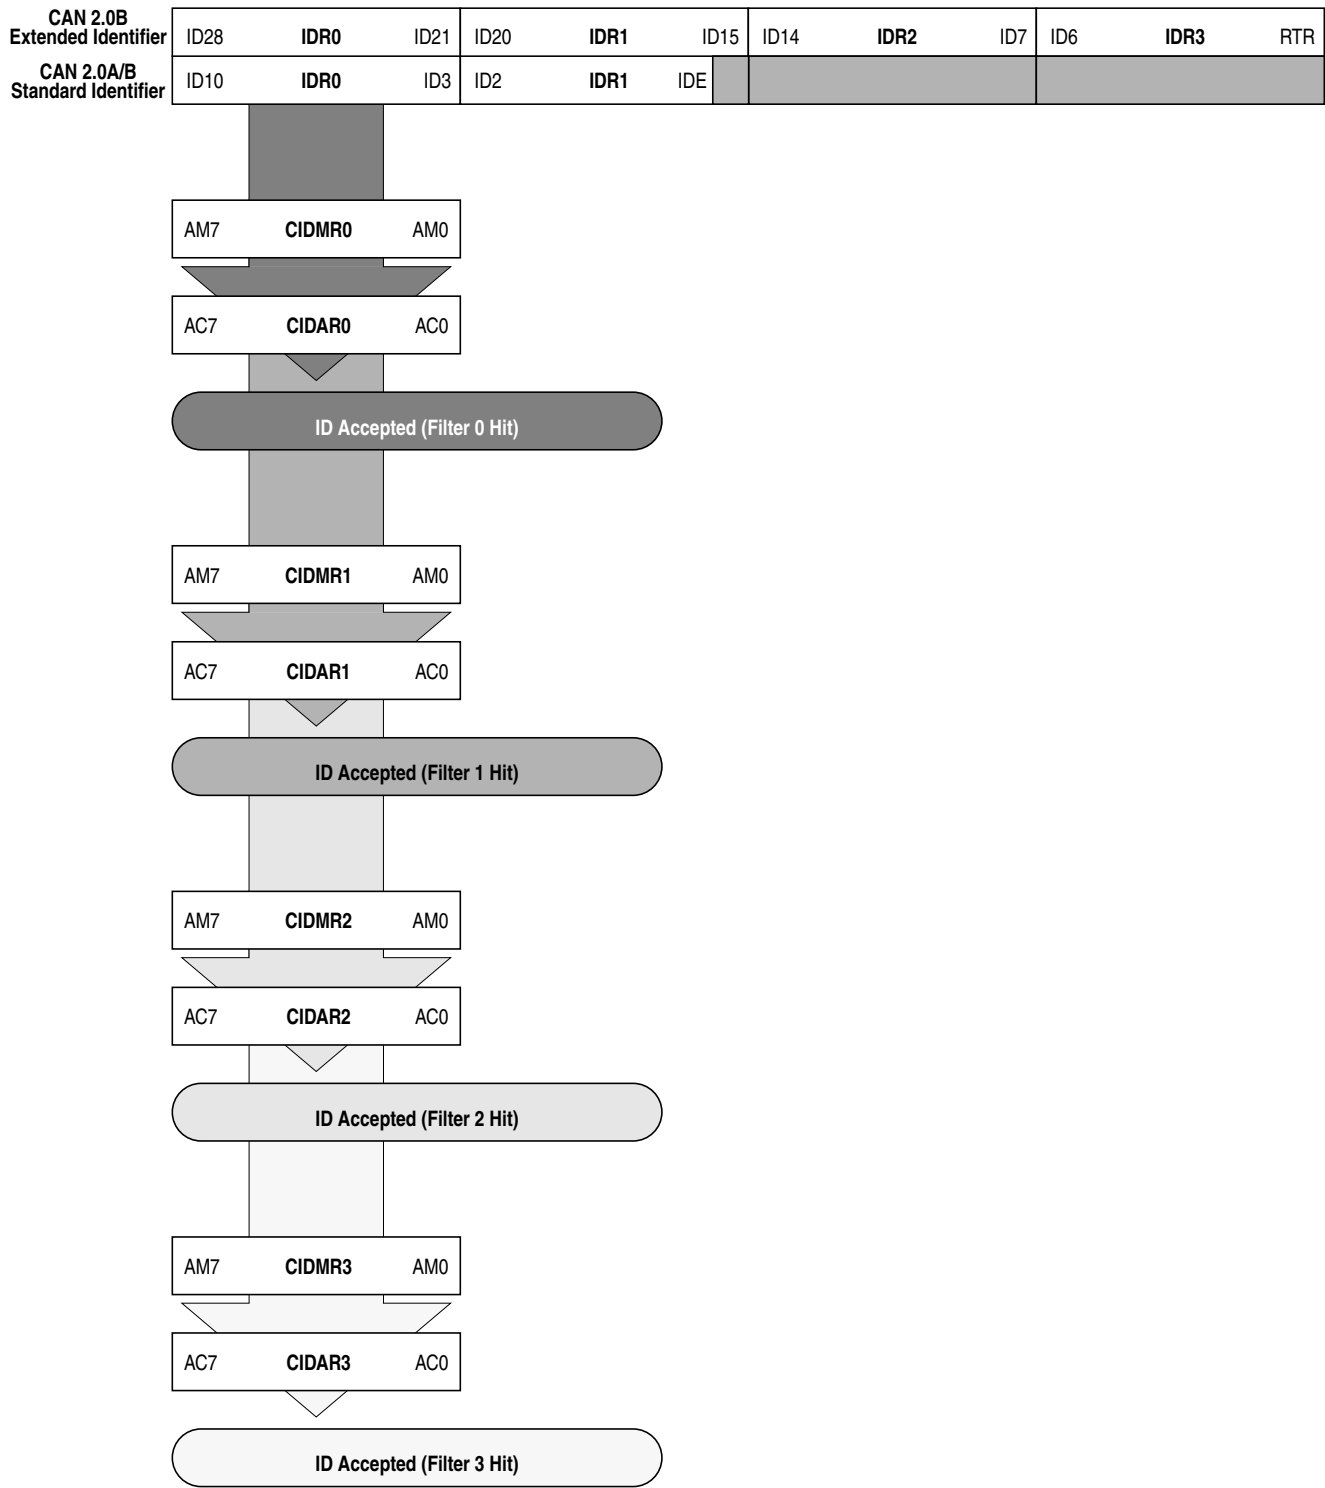

Figure 12-41. 8-bit Maskable Identifier Acceptance Filters
- Eight identifier acceptance filters, each to be applied to the first 8 bits of the identifier. This mode implements eight independent filters for the first 8 bits of a CAN 2.0A/B compliant standard identifier or a CAN 2.0B compliant extended identifier. Figure 12-41 shows how the first 32-bit filter bank (CANIDAR0–CANIDAR3, CANIDMR0–CANIDMR3) produces filter 0 to 3 hits. Similarly, the second filter bank (CANIDAR4–CANIDAR7, CANIDMR4–CANIDMR7) produces filter 4 to 7 hits.